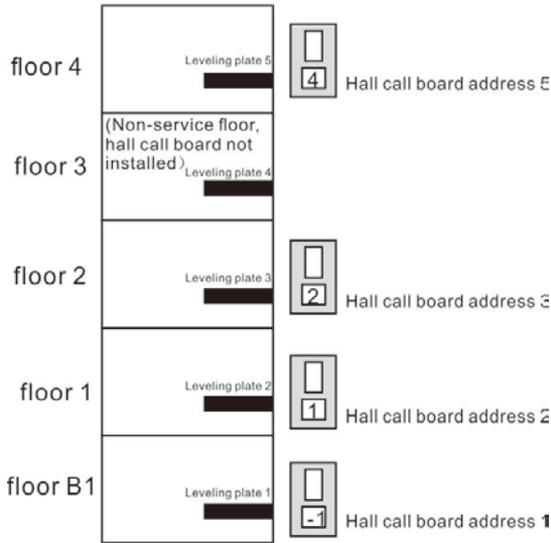

Figure 3-9 HCB installation and address setting
- ◆ Install an HCB for each service floor (non-service floors do not require the HCB), as shown in Figure 3-9
From the bottom floor, set the address of the HCB for the floor where the Nth leveling plate is located to N, as shown in the following figure, as shown in Figure 3-9.